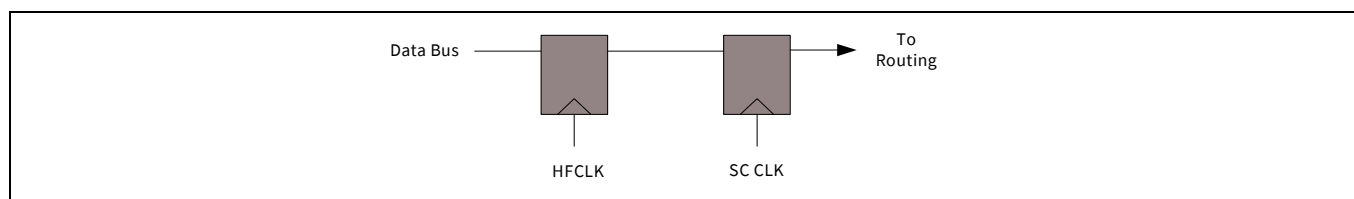

Figure 34-33. Control Register Sync mode
In Sync mode, as shown in Figure 34-33, the control register output is driven by a re-sampling register clocked by the currently selected Status and Control (SC) clock. This allows the timing of the output to be controlled by the selected SC clock, rather than the HFCLK.